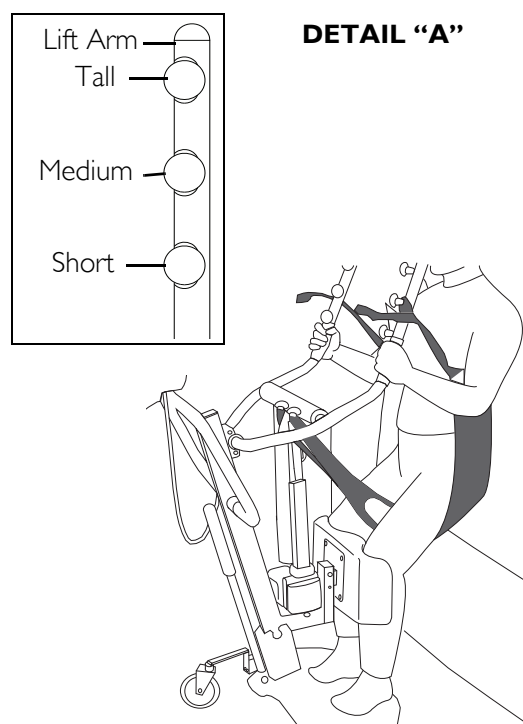
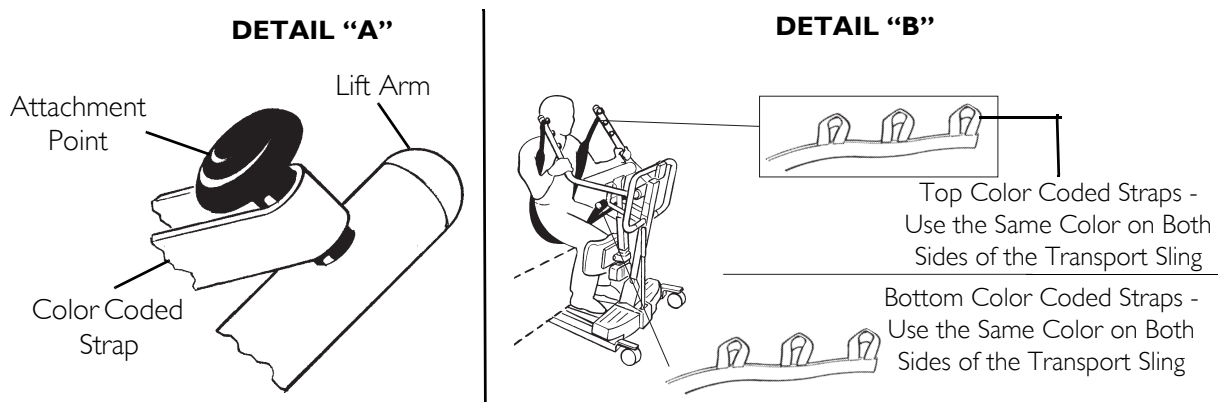

FIGURE 6.4 Attaching Slings to the Stand Up Lift - Transport Slings
FIGURE 6.5 Attaching Slings to the Stand Up Lift - Transport or Transfer Slings
NOTE: For this procedure, refer to FIGURE 6.4 and FIGURE 6.5 on page 23.
Make sure the color coded strap sits flush against the attachment knob in Detail "A" of FIGURE 6.5 on page 23, otherwise injury or damage can result.
- The same bottom color coded strap is used on each side of the sling. Refer to Detail “B” of FIGURE 6.5.